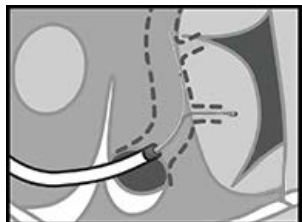

Figure 2
33. After LV lead placement, a .032 inch J-tip extra stiff removal guidewire is advanced into the Right-sided CSG Worley beside the LV pacing lead and into the distal main CS vein. (see Figure 2)